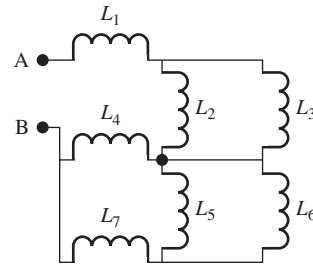

FIGURE P4.49 Inductor network.
- 4.49 (H) Find the expression for the equivalent inductance across the points A and B in Figure P4.49.